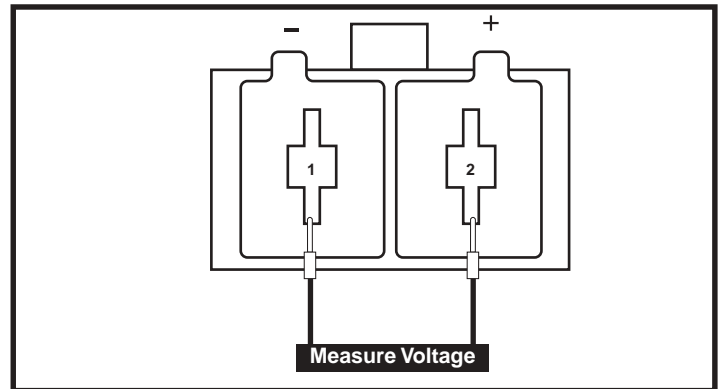

Figure 8. Connector 5a
11. Measure voltage across pin 1 and pin 2 of connector 5a. **See figure 8.**